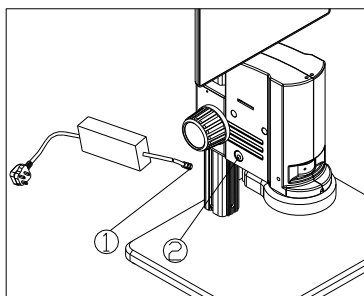

Fig. 3
1) Insert the external adapter plug① into the power supply adapter socket② of the microscope body to the bottom, and the power will be switched on. (See Fig. 3)